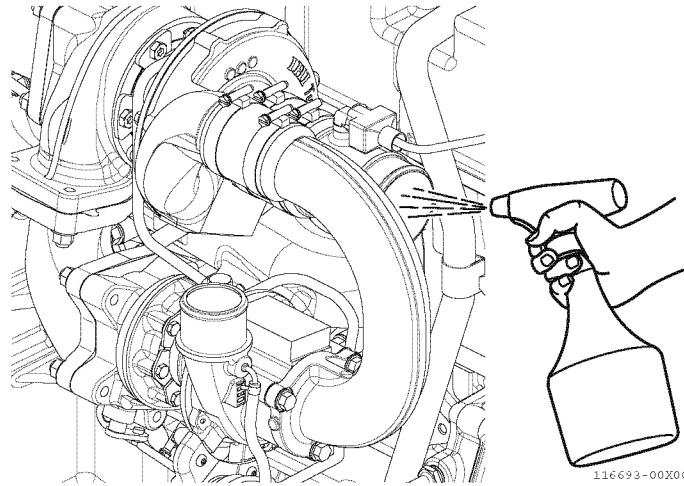

Fig.24-25
3. While the engine is operating at normal load (75 - 80 % of maximum load), slowly and evenly spray 60 - 90 cc (2 - 3 oz) of blow clean fluid over a period of ten to fifteen seconds into the air inlet. Fig.24-25 shows 4TN107FTT.